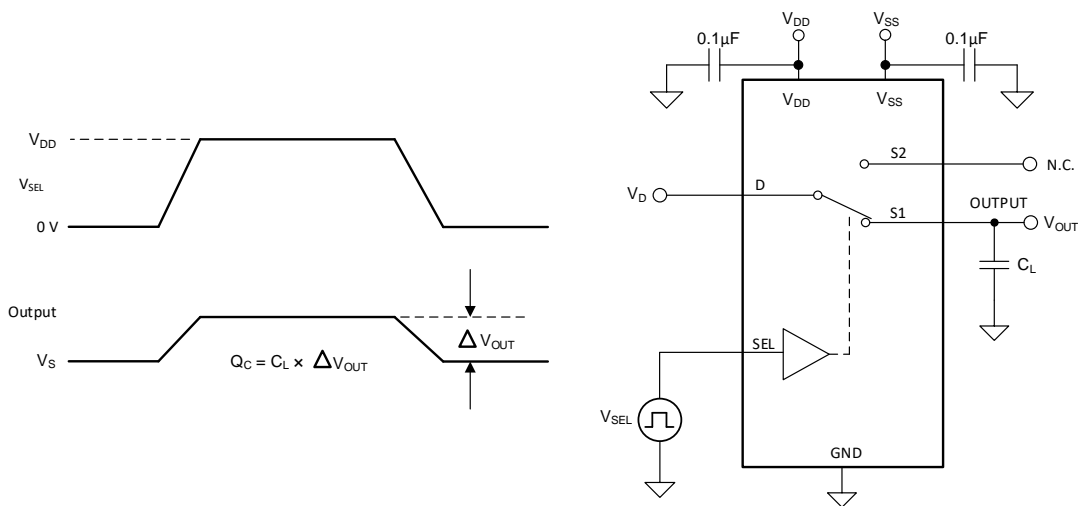

图 12. Charge-Injection Measurement Setup
The TMUX1219 has a transmission-gate topology. Any mismatch in capacitance between the NMOS and PMOS transistors results in a charge injected into the drain or source during the falling or rising edge of the gate signal. The amount of charge injected into the source or drain of the device is known as charge injection, and is denoted by the symbol Q_C . 图 12 shows the setup used to measure charge injection from Drain (D) to Source (Sx).